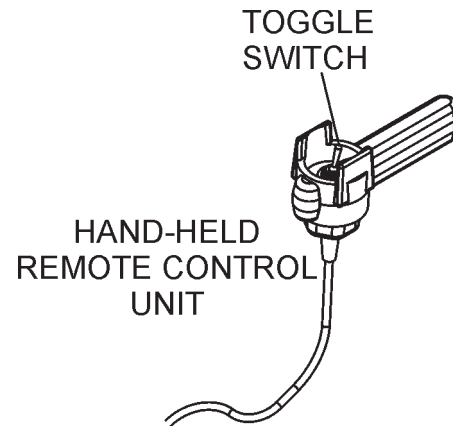

Figure 11. Remote Control Unit
1. On the remote control unit there is a toggle switch. When pressed, this toggle switch (Figure 11) will activate (extend) the hydraulic cylinder. Releasing the toggle switch will hold the cylinder in place.